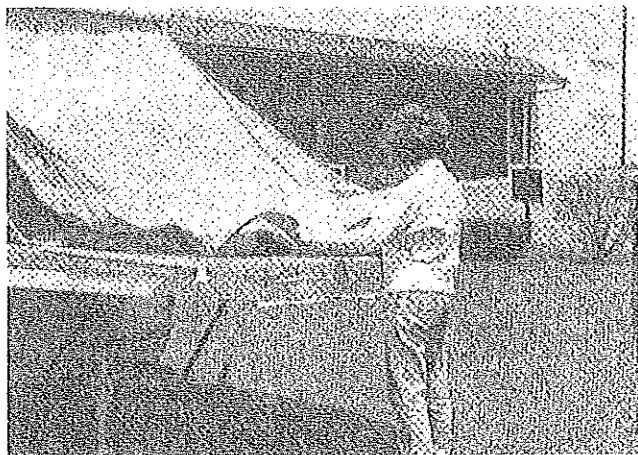
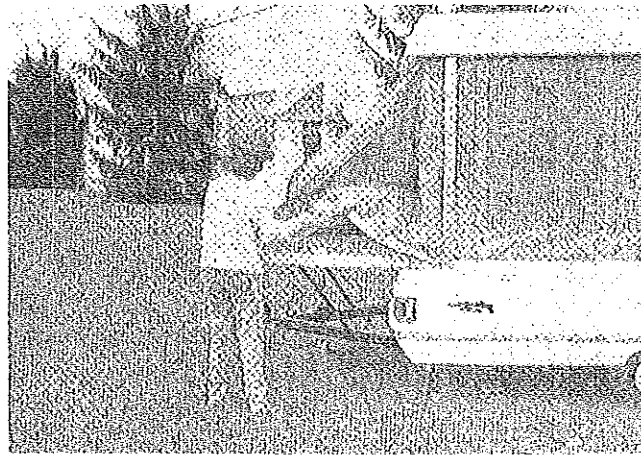

FIGURE 15
FIGURE 16
1. With both beds fully extended and supported, grasp the bottom edge of either the front or rear tent enclosure with hands approximately 2 1/2 feet apart. Gently pull until the tent fabric is pulled out toward the end of the wing beds. See Figure 15. Standing at either side of the wing bed, reach in underneath the tent fabric and grasp the side of the canvas bow and rotate toward the end of the bed. See Figure 16.